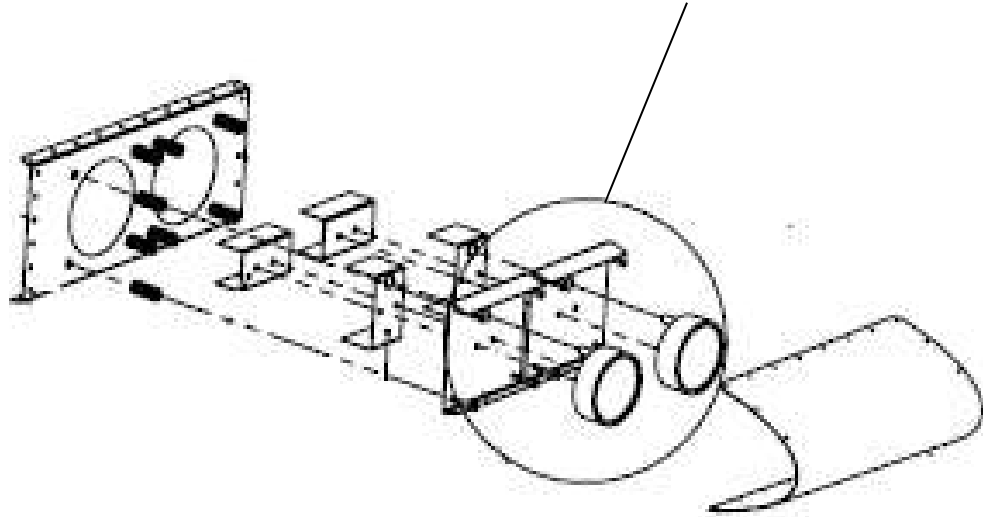

Figure 65 : Landing and taxi light installation.
- Observe correct orientation of the angled plates. Also refer to Figure 65.
- Tie wrap the wires together and to the angled plates (through hole (5)) with a plastic tubular standoff / spacer (6) to distance the wires from the angled plate's edge.